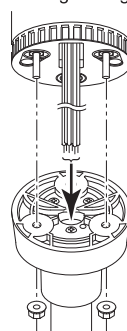

Fig. 2
- If changing the pole bracket (option) installation to the direct mount (V) type later, beware of the pole bracket direction to avoid pinching the lead wires. (See Fig. 2) Recommended tightening torque: 0.59N·m.